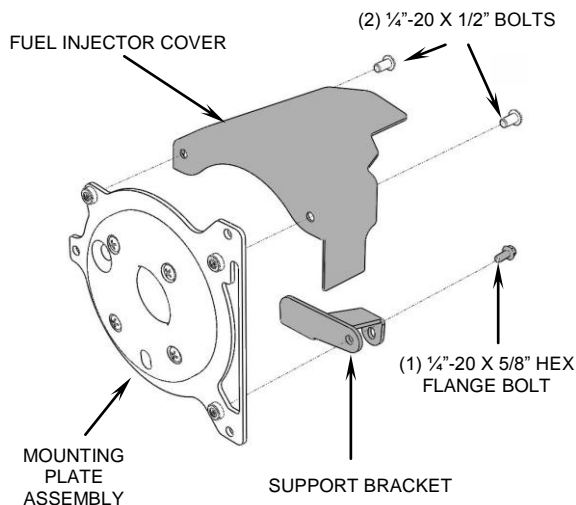
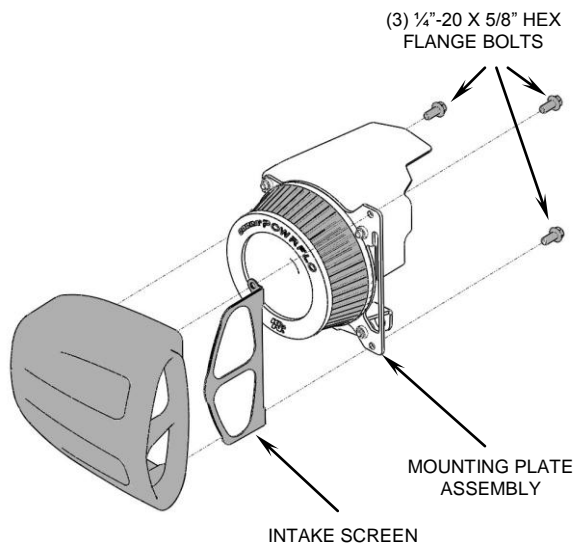

FIGURE 3
FIGURE 4
7. Using (2) supplied  $\frac{1}{4}$ "-20 x  $\frac{1}{2}$ " buttonhead bolts, secure the fuel injector cover to the upper portion of the mounting plate, and tighten. Use a  $\frac{1}{4}$ "-20 x  $\frac{5}{8}$ " hex flange bolt to attach the support bracket to the lower threaded hole and orientate as shown in Figure 3, but do not tighten.
9. Between the two cylinders is a bracket with a welded nut; align the slotted hole in the support bracket with that welded nut, then insert the (1) supplied M6 x 16mm buttonhead bolt.
13. Place intake cover over the mounting plate assembly and align the mounting holes to the threaded bosses. Insert the (3) supplied  $\frac{1}{4}$ "-20 x  $\frac{5}{8}$ " flange bolts and tighten the mounting plate to the intake cover. See Figure 4.